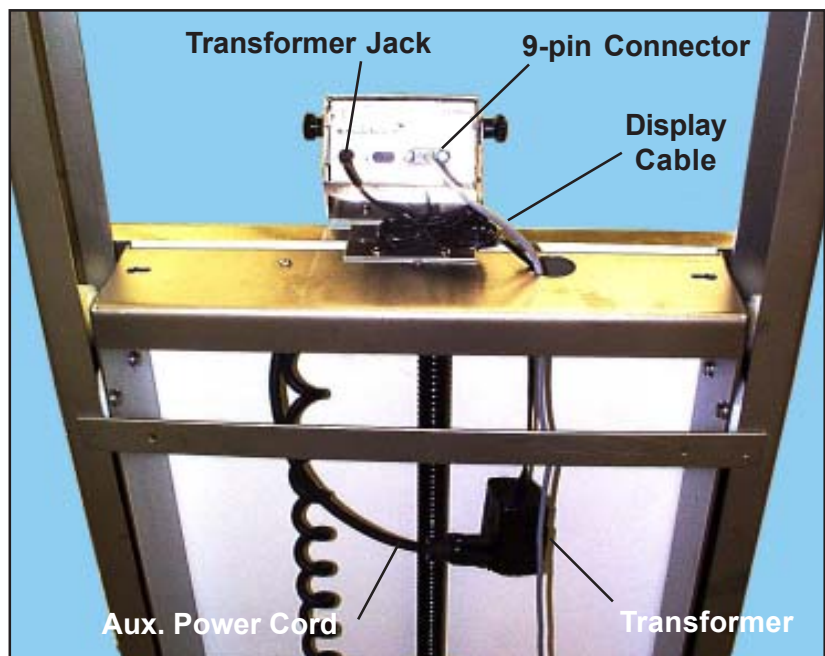

Figure 23. Transformer and Display Cable Connection
9. Plug the display cable 9-pin male connector into the female terminal on the display console (Figure 23), and secure the connector with the two locking screws.